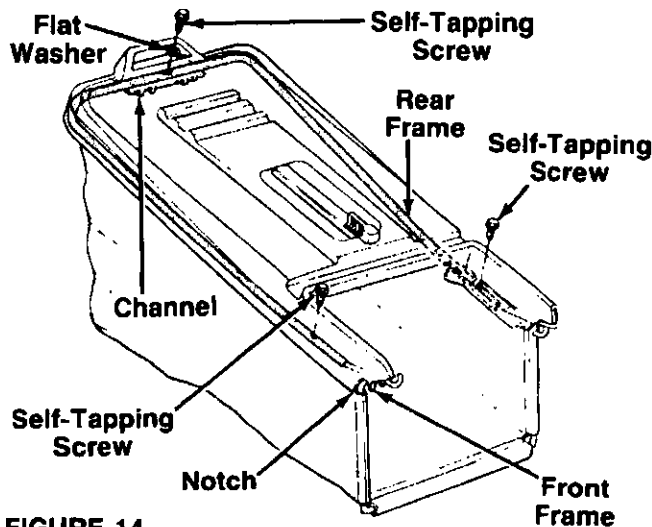

FIGURE 14.
4. Attach the hardtop cover to the grass catcher as follows. See figure 14.
- Attach rear of cover to frame using the flat washer and one self-tapping screw as shown in figure 14. Attach the sides of the cover to frame with the other two self-tapping screws.